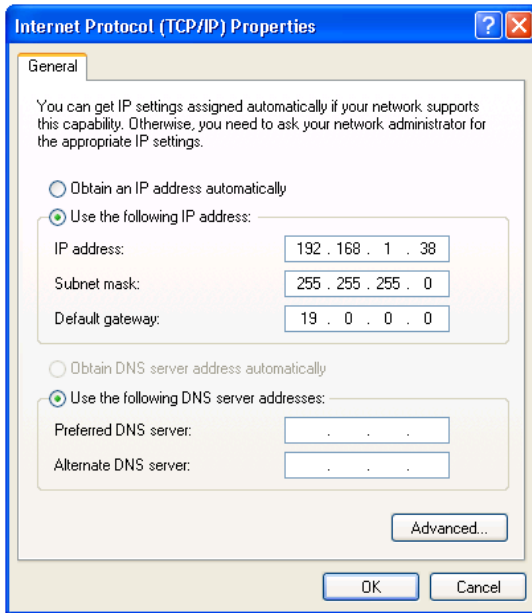

Figure 5: Internet Protocol (TCP/IP) Properties Window
6. Select **Use the following IP Address** and enter the details as shown in Figure 5.